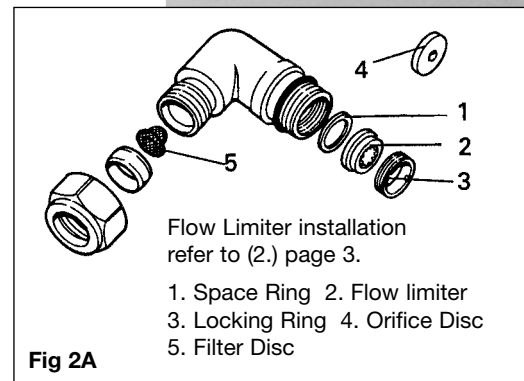

Fig 2A
2. The following chart should be consulted when installing the flow limiters provided into the inlet elbows. (Refer to Fig 2A)